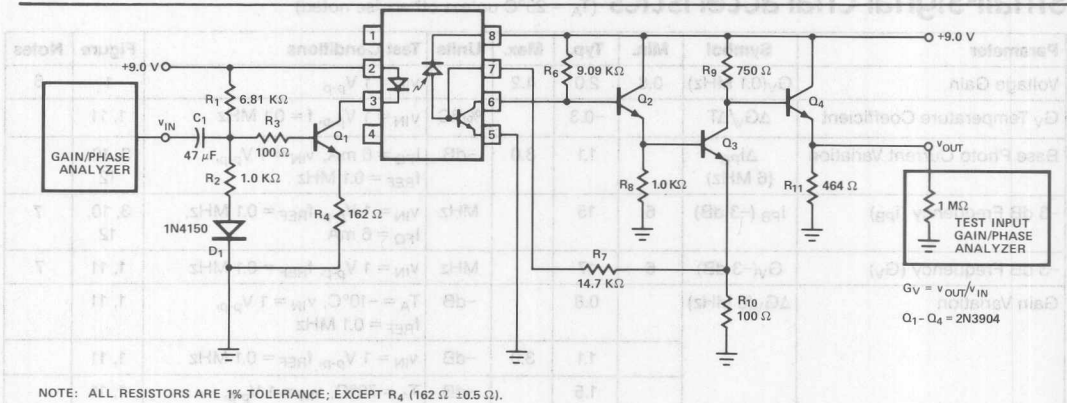

Figure 1. Gain and Bandwidth Test Circuit
- When used in the circuit of Figure 1 or Figure 4;  $G_V = V_{OUT}/V_{IN}$ .